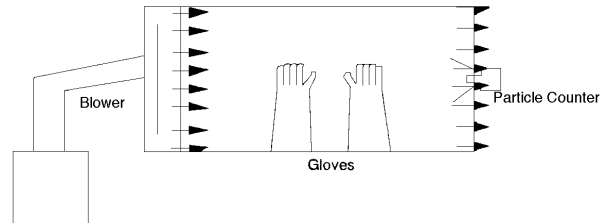

Figure 1
7.2 Clean Bench with Full Gloves and a Dust Particle Measurement Port — Refer to Figure 1.